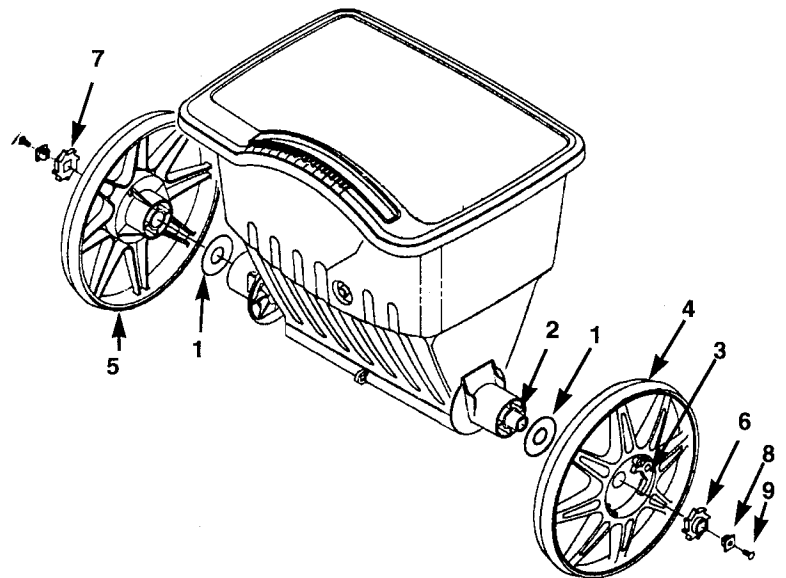

Figure 8
6. Slide a thrust washer onto each axle bushing (Fig. 8).
7. The black ratchet arm (Fig. 8) in each wheel is marked either "Left Hand Out" or "Right Hand Out", for the left wheel or right wheel, respectively. Position the hopper as shown and install the left and right wheels. Note: the right and left side of the spreader are determined by standing behind the unit in the mower operator position.
8. Each wheel gear is marked either "Left Hand Out" or "Right Hand Out". Install the left and right wheel gears and make sure they engage the black ratchet arm in the wheels. Next, push both axle retainers fully into the ends of the axle (Fig. 8) and make sure the flange on the retainer is against the axle. Now install the hex head screws into both axle retainers (Fig. 8). Hold the opposite end of the axle to prevent it from turning as you tighten the screws.